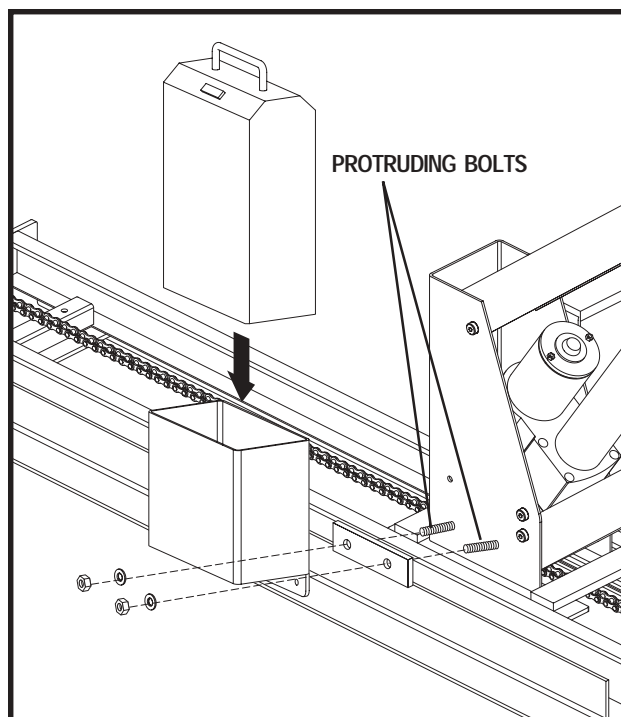

Figure 5. Onboard Battery Installation
1. Remove the rubber caps and nuts from the protruding bolts on the side of the lift motor housing. See figure 5.
2. Mount the battery case onto the protruding bolts and secure into position with the nuts removed earlier. See figure 5.